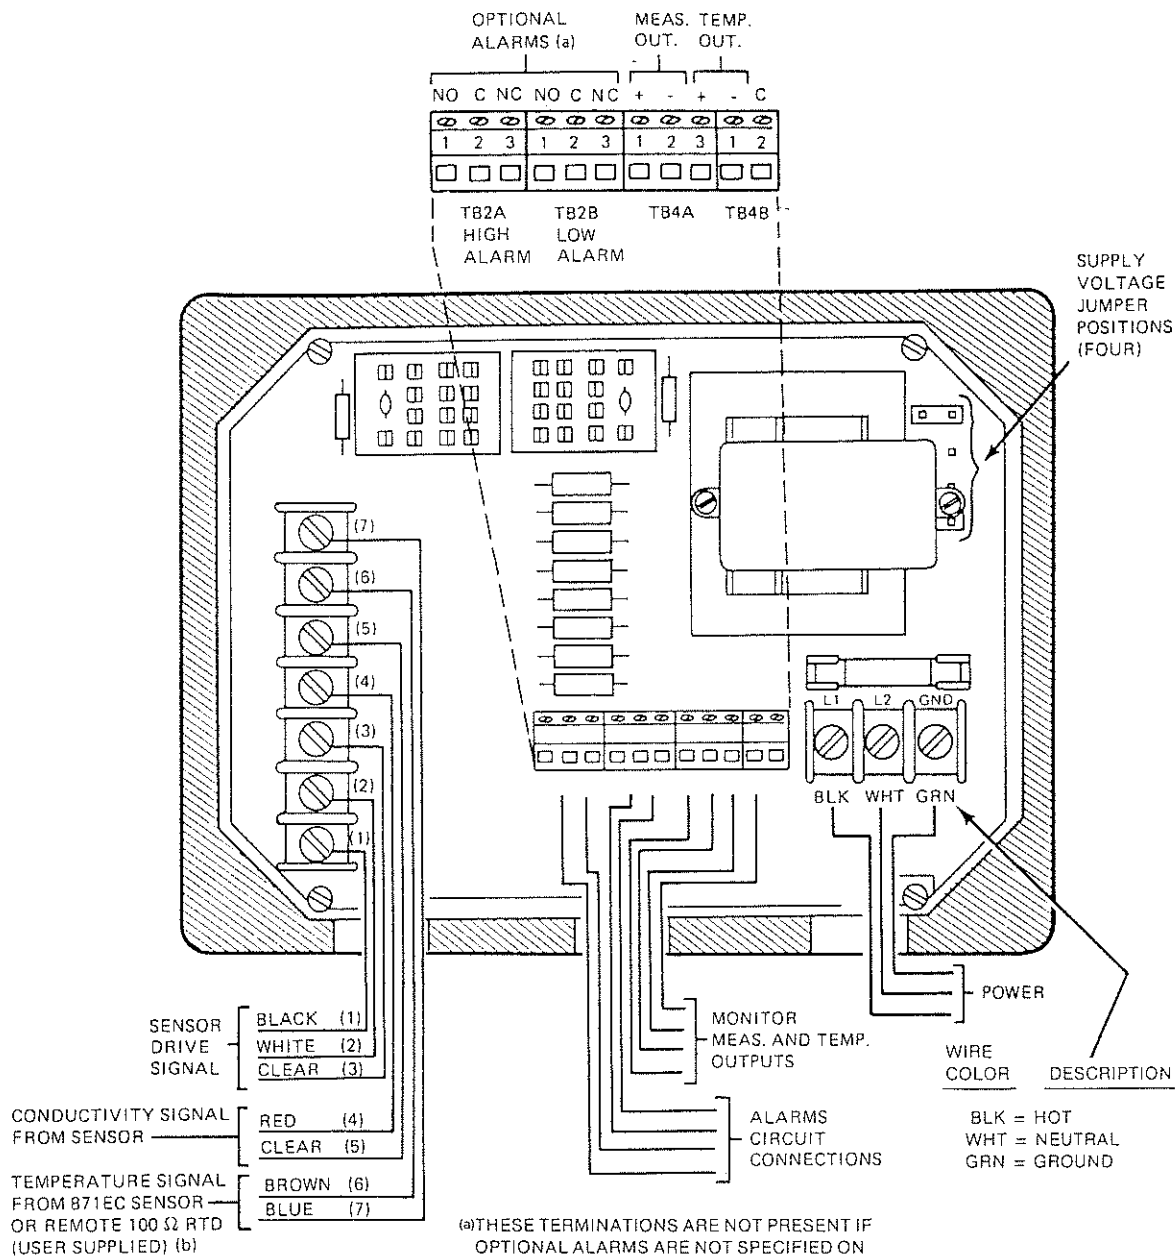

Figure 8.
5. Connect two High Alarm wires between TB2A COMMON (C) and, depending on user's external circuit, either TB2A Normally Closed (NC) or TB2A Normally Open (NO). Refer to Figure 8.
6. Connect two Low Alarm wires between TB2B COMMON (C) and, depending on user's external circuit, either TB2B Normally Closed (NC) or TB2B Normally Open (NO). Refer to Figure 8.
8. Connect wires from external circuit for Monitor measurement output to terminals TB4A-1(+) and TB4A-2(-). Refer to Figure 8.
11. Connect sensor wires to Monitor terminal block in accordance with Figure 8. Wrap unused leads from 871EC Sensor if a (user supplied) 100  $\Omega$  RTD is used for temperature compensation input.
12. The 872 Monitor has four potential positions for two supply voltage jumpers (see Figure 8). Confirm that the two power supply voltage jumpers are positioned in accordance with user's supply voltage as follows:
14. Connect power wires to power connection terminal as shown in Figure 8.